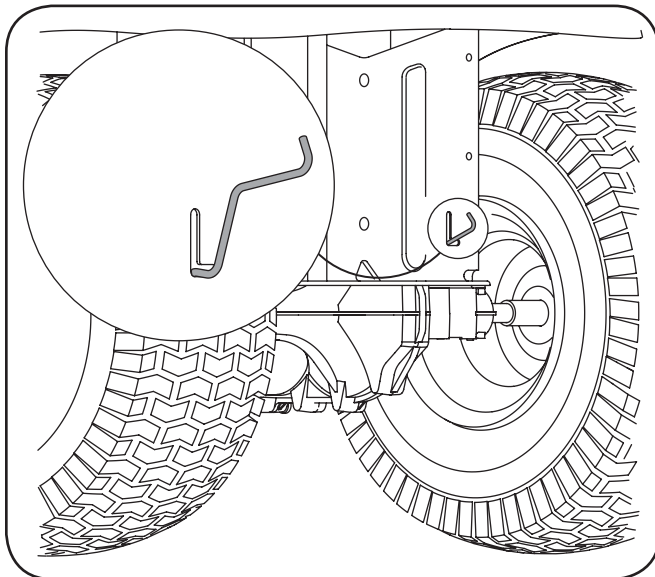

Figure 5-2
1. Locate the hydrostatic bypass rod in the rear of the tractor. See Fig. 5-2.